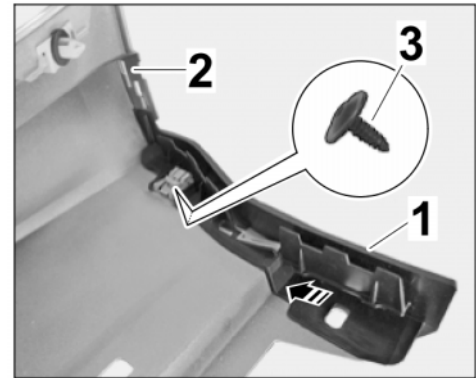

Figure 41
- 7.3.2 Install rear rubber lip (spoiler) on the sill cover and slide it in direction of arrow (\Rightarrow *Figure 41 -Arrow-*) until the rubber lip engages securely.
Secure rubber lip (spoiler) with a tapping screw (\Rightarrow *Figure 41*).